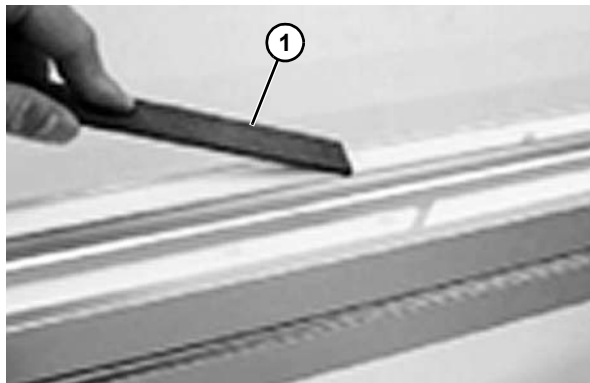

Figure 44
3. After the cut, make sure the slide rail surface is smooth and the nylon screws do not protrude over the slide rail surface. Use a file (**Figure 44, item 1**) to file off the protruding edge if uneven surface is found.